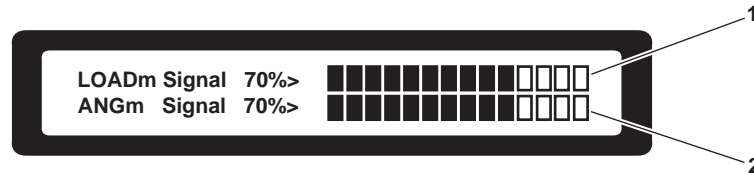

Figure 16. Signal Strength Display Screen
2. Access the transmitter(s) signal strength display screen (figure 16) by pressing the down arrow button (figure 2, item 4) on the LMI receiver panel (figure 2, item 2) twice while in the primary operating display screen (figure 10).
- The transmitter signal strength display will indicate load cell signal strength (figure 16, item 1) and boom angle indicator signal strength (figure 16, item 2) as a percentage and as a bar graph display.